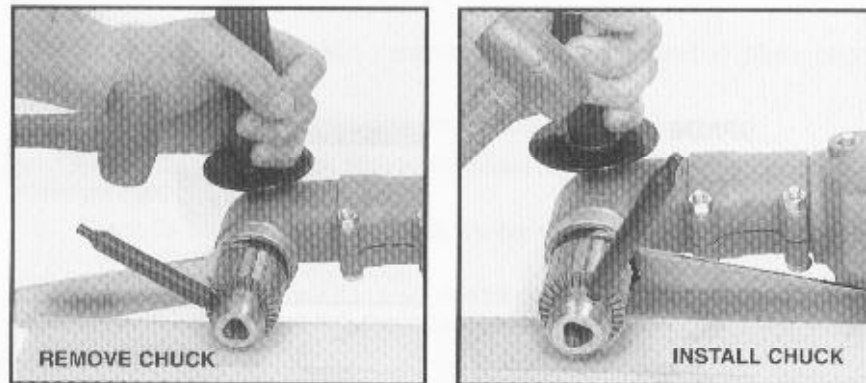

Fig. 3
5. While supporting chuck on a solid surface, place wrench on flats of spindle and allow the opposite end of wrench to rest on the workbench to your left as shown in Fig. 3. Place chuck pin wrench into chuck key hole so that pin wrench extends to your left as shown in Fig. 3. Strike the pin wrench a sharp blow with a hammer to loosen chuck.